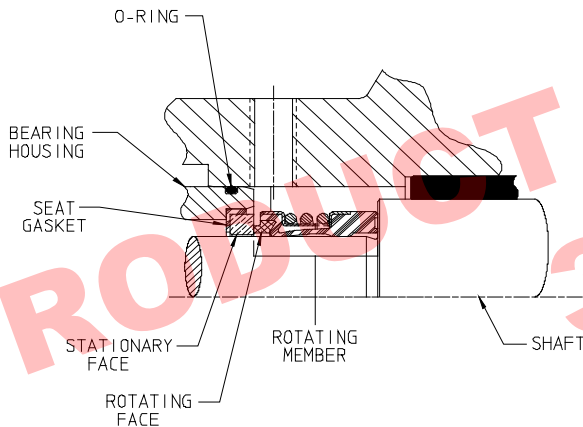

FIGURE 7
9. See **FIGURE 7** and notes under "**MECHANICAL SEAL**" on this page. Lubricate the outside diameter of the seat gasket and install the stationary member of the mechanical seal into the end of the bearing housing. **Note** the shiny side of the seal seat faces out.